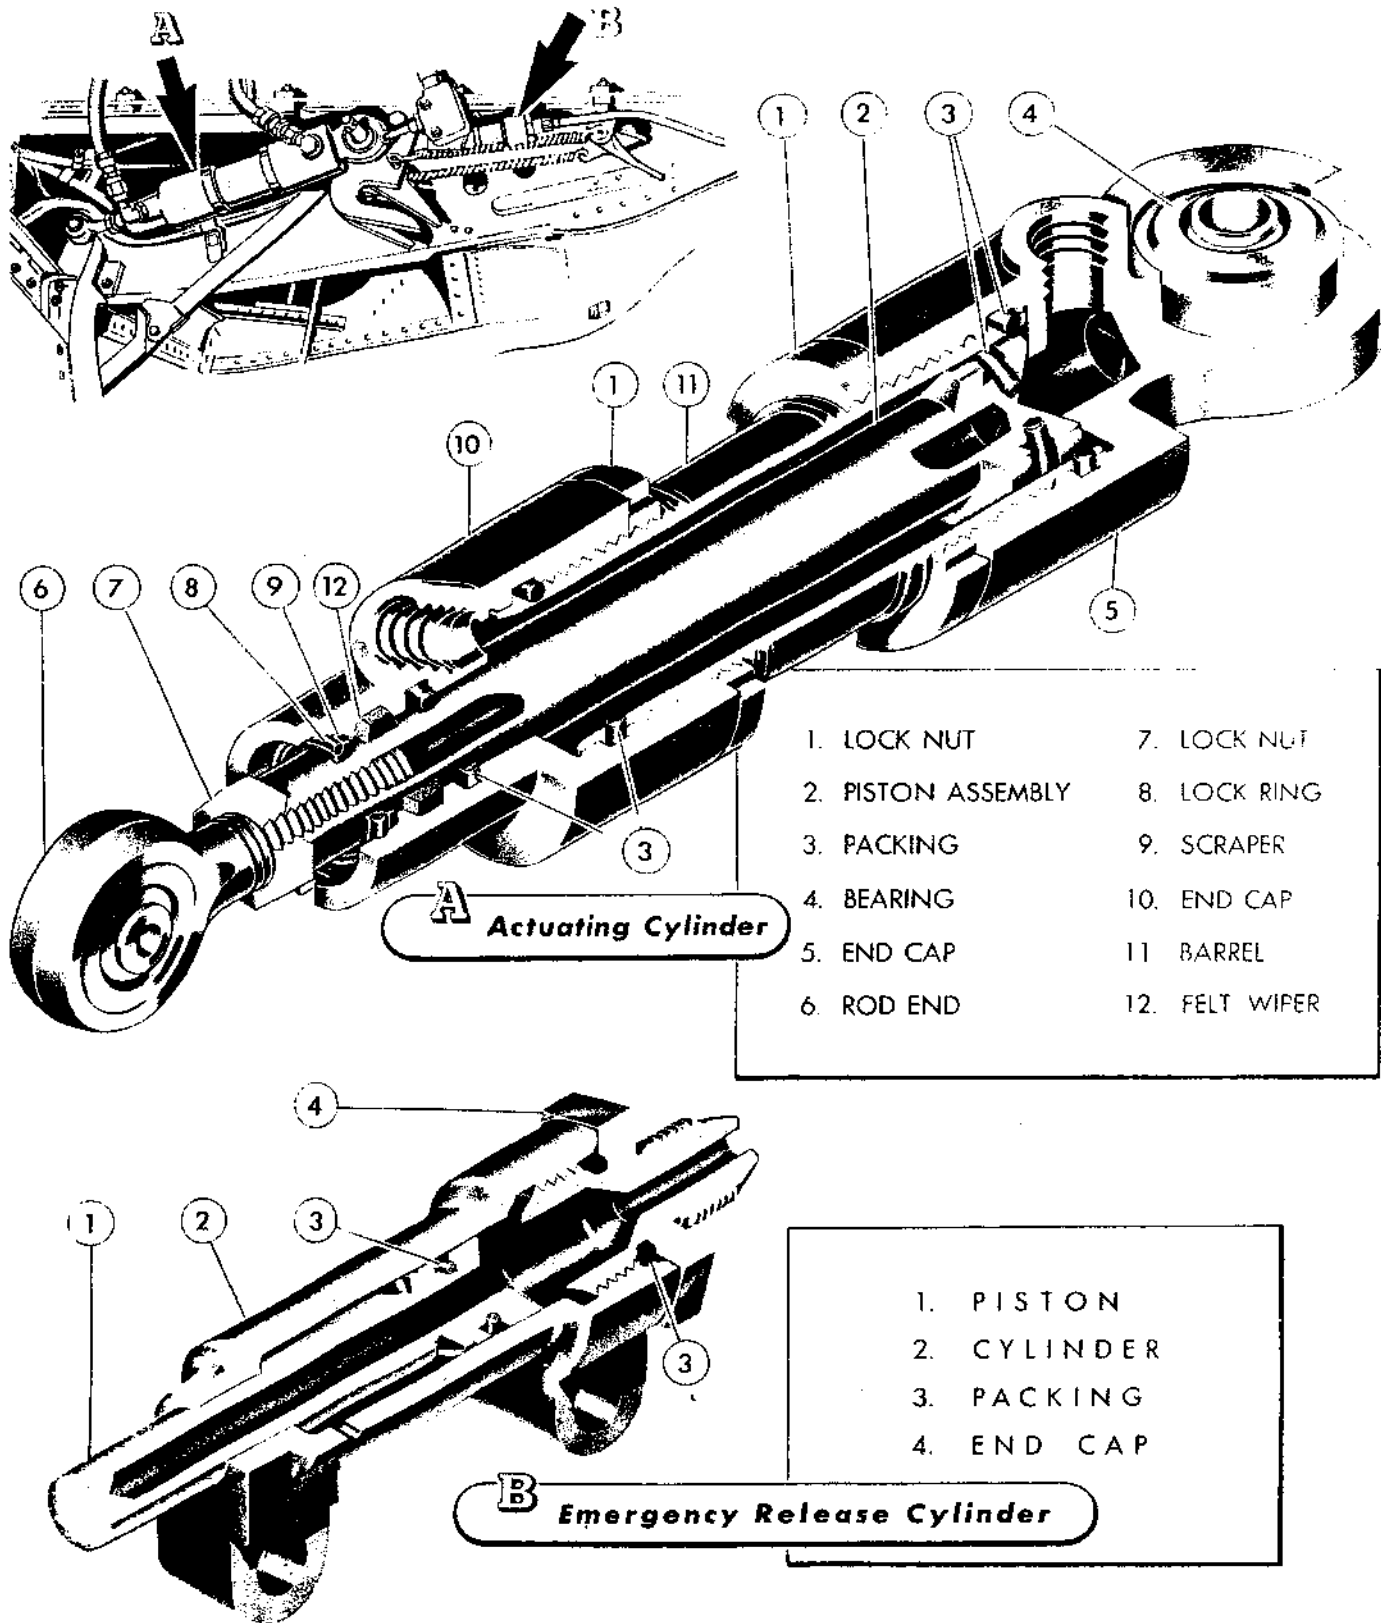

Figure 158 — Main Alighting Gear Door Actuating Cylinder
(6) MAIN GEAR DOOR ACTUATING CYLINDER. (See figure 158.)—This cylinder which actuates the inner door segment of the main gear, is connected to the door and door mechanism by sealed anti-friction bearings located one at each end of the cylinder. One bearing is pressed in a lug which extends from the end cap; the other bearing is incorporated in the piston-rod end fitting. The cylinder end caps are removable from the barrel for complete disassembly of the unit. A scraper is provided at the piston rod bearing to exclude foreign matter from the cylinder. "O" ring packings are used throughout.